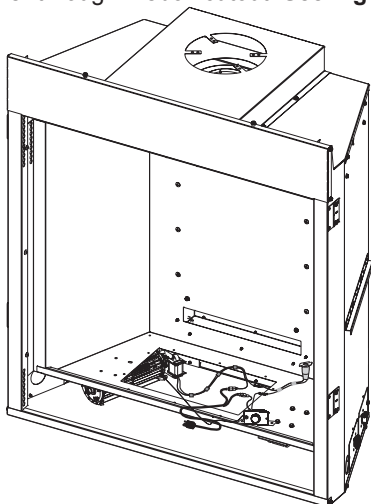

Figure 14
11. Install blower through firebox cutout. **See Figure 14.**